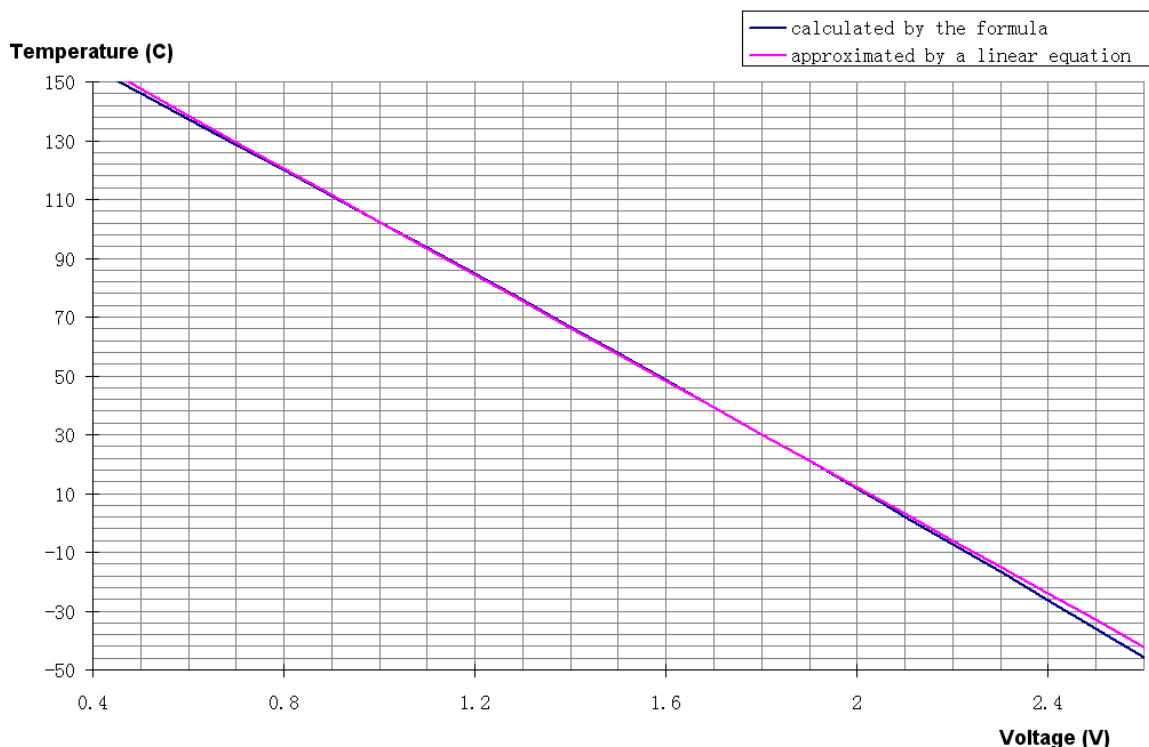

Figure 18. Controller Internal Temp vs. TMPO Voltage
Within the most commonly used temperature range of between 0°C to 100°C, the maximum error occurs at about 1.5V, at which the temperature error between the calculated data by using the formula (1) and the approximated data obtained by using the linear equation (2) is about 0.4°C, with the linear data being a little lower. The curves of the 2 sets of the data are plotted in Figure 18.